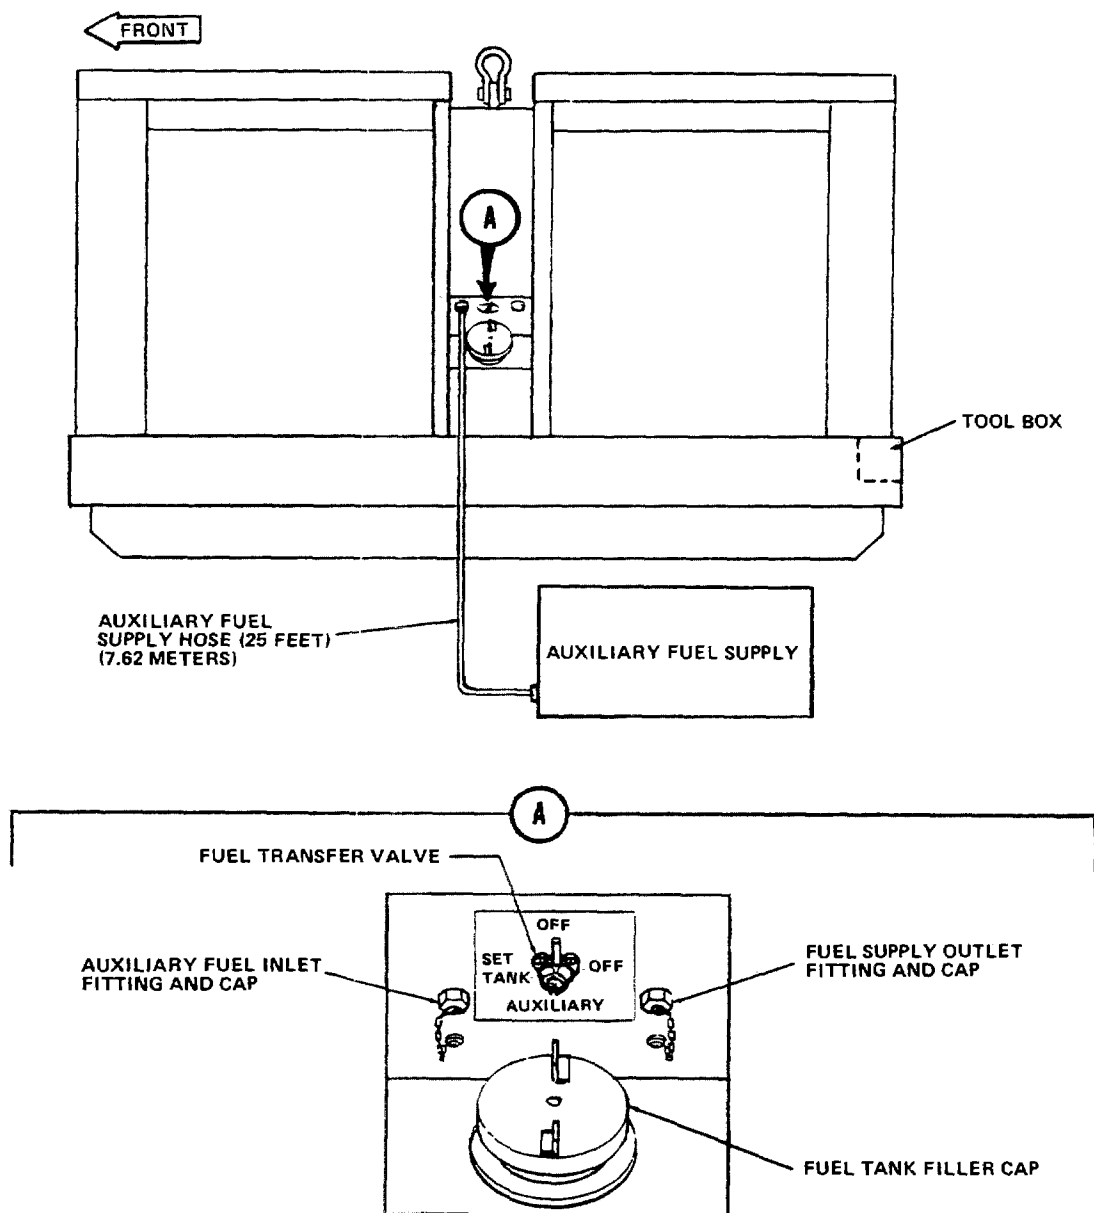
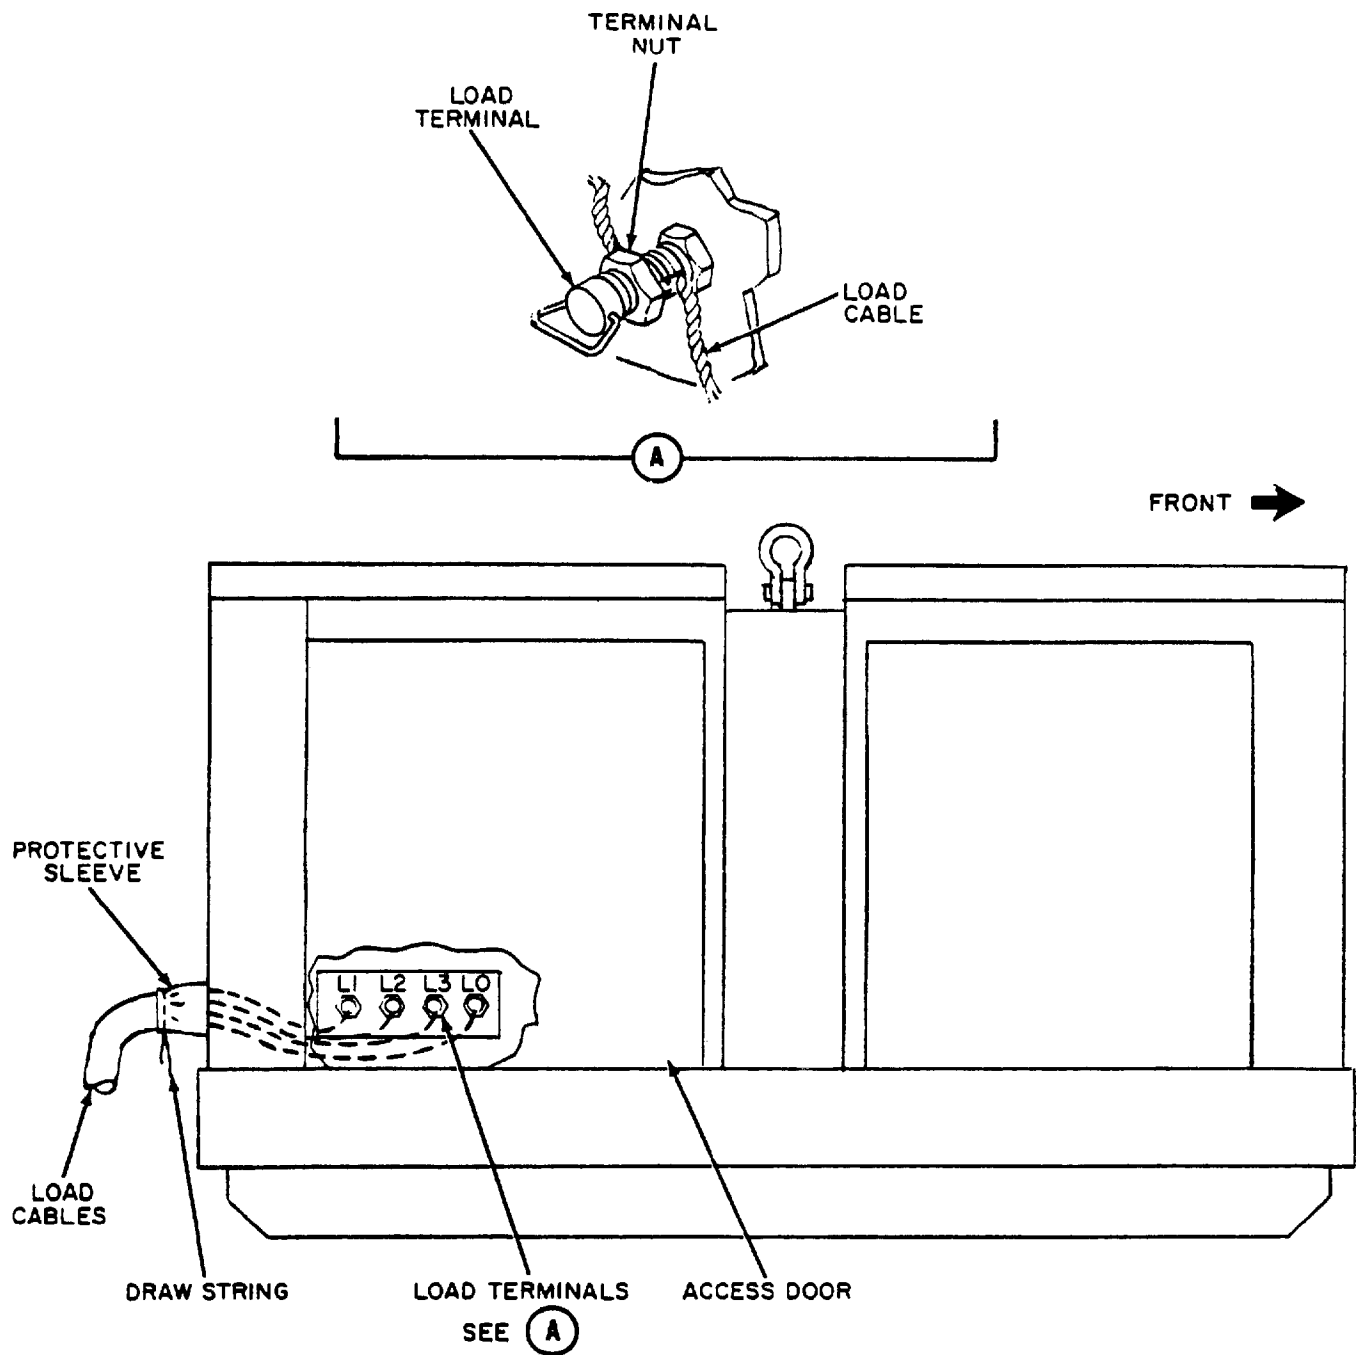

Figure 4-6. Fuel Connections
Figure 4-7. Load Cable Connections
(5) After ground rods have been driven into the ground, remove driving stud and top coupling.
(6) Connect clamp and ground cable to top ground rod and secure by tightening screw.
To connect an auxiliary fuel supply to the generator set, refer to figure 4-6 and perform steps (1) through (4), below. To utilize generator set as an auxiliary fuel supply perform steps (5) through (7), below.
(1) Position auxiliary fuel supply within 25 feet (7.6 meters) of generator set and not more than 12 feet (2.7 meters) below the transfer pumps.
(2) Remove cap from auxiliary fuel inlet fitting.
(3) Remove auxiliary fuel hose from its mount at left rear side of generator. Connect hose to auxiliary fuel inlet fitting and auxiliary fuel supply.
(4) Position fuel transfer valve to AUXILIARY.
(5) Remove cap from fuel supply outlet fitting.
(6) Connect fuel hose to fuel supply outlet fitting and then to external equipment requiring fuel.
(7) Position fuel transfer valve to OFF.
g. Load Connections. To connect load cables to generator set, refer to figure 4-7 and proceed as follows:
a. Open access door (refer to figure 4-7). Disconnect transparent cover by loosening six quick-release fasteners. Remove wrench from cover. Loosen terminal nuts using wrench provided, and remove load cables from terminals. Untie drawstring and remove load cables from generator set. Install wrench on transparent cover and install cover. Close access door.
b. Position fuel transfer valve to OFF (refer to figure 4-6). Disconnect auxiliary fuel supply hose, cap end fittings, and stow hose on its mount at left rear side of generator. Replace cap on auxiliary fuel inlet fitting.